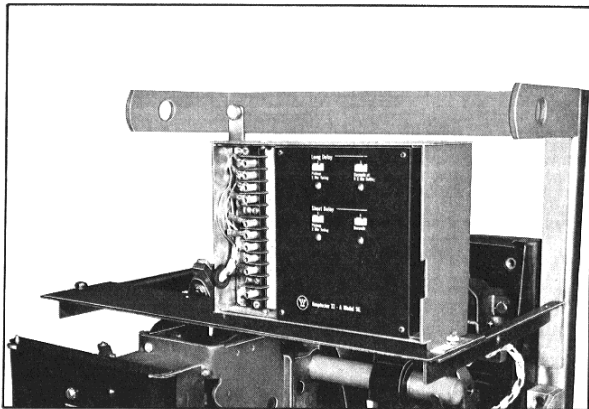

Fig. 24 Amptector Mounted on Cross Plate DB-50
2. Mount the cross plate with the two .203 holes next to the breaker arc chutes on the left hand arm using the .25-20 tapped hole, and .25-20 x .5 bolt and washers. Now mount the right hand side of the amptector to the cross plate and right hand arm with .25-20 x .5 bolt and washers, then secure left hand side of amptector to the cross plate with another .25-20 x .5 bolt and washers, Fig. 24.
- Drill a .343 hole in platform base after you have properly positioned the actuator on the platform per Figs. 24 and 26. Hole is approximately 5.18" from the front of the platform and 1.03 from the side of the platform. Secure the actuator with a .312-18 x 1.0 screw, nut and washers.